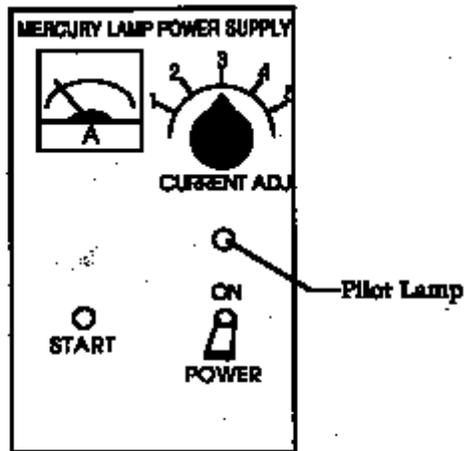

Figure 6: Mercury Lamp Power Supply
- **b.** Turn ON the POWER switch (Fig. 6: Mercury Lamp Power Supply). The mercury lamp power supply is on the floor by the right front table leg.
- **c.** Press the START switch (Fig. 6).
- **d.** DO NOT change the CURRENT ADJUSTMENT setting (Fig. 6). If you think it needs adjustment, talk with the lab technician.